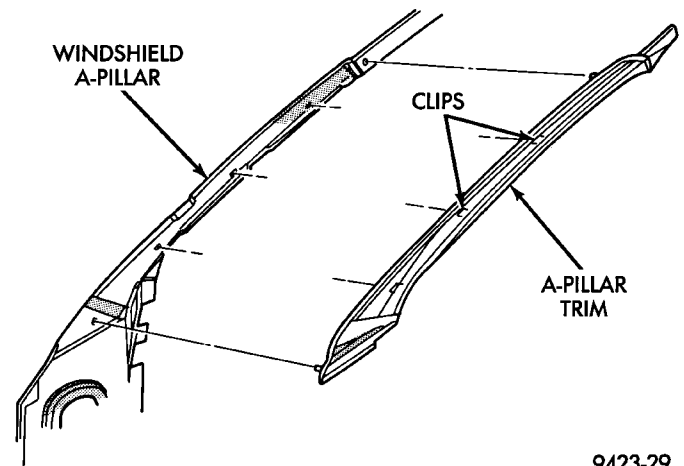

Fig. 56 A-pillar Trim
- (1) Remove instrument panel top cover.
- (2) Disengage clips holding trim to A-pillar.
- (3) Separate A-pillar trim from vehicle (Fig. 56).